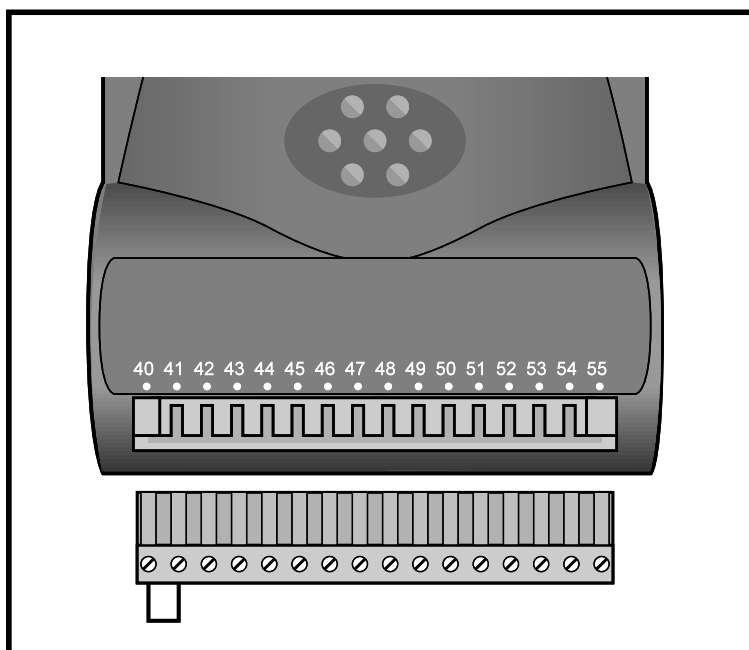

Figure 2 Location of the plug-in terminal block on the UD55
- 3 On the UD55 connector, connect terminal 40 directly to terminal 41 to enable the *save* function (see Figure 2).